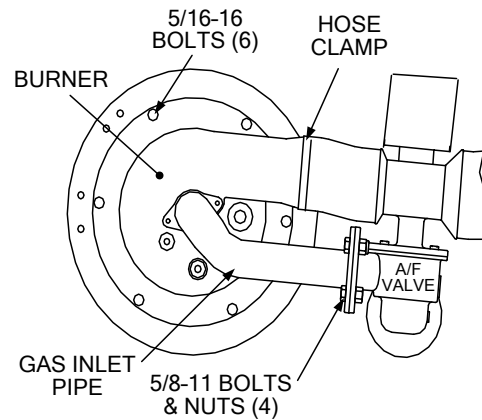

Figure 7.3
5. Disconnect the combustion air hose from the burner by loosening the hose clamp. (See Fig. 7.3)
6. Remove the four (4) 5/8-11 nuts and bolts from the gas outlet side of the Air/Fuel Valve. (See Fig 7.3).
Do not remove the gas inlet pipe from the Burner Assembly (See Fig. 7.3).
7. Remove the six (6) 5/16-16 bolts from the burner flange. (See Fig 7.3)
It is imperative that the Gas Inlet Pipe on the Burner Assembly (Figure 7.3) be properly aligned with the four bolt holes on the gas outlet flange of the Air/Fuel Valve. Failure to observe this precaution may cause physical damage to the Gas Inlet Pipe resulting in cracks and/or gas leaks.
16. Reconnect and secure the combustion air hose to the Burner Assembly by tightening the hose clamp (Fig. 7.3).